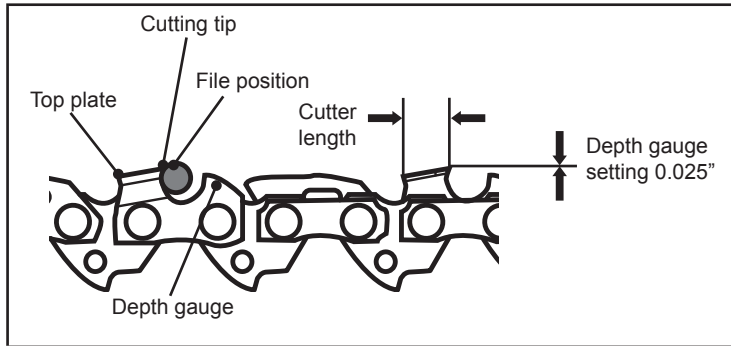

Fig. 25
10. measuring jigs are available from most reputable tool merchants (Fig. 25).